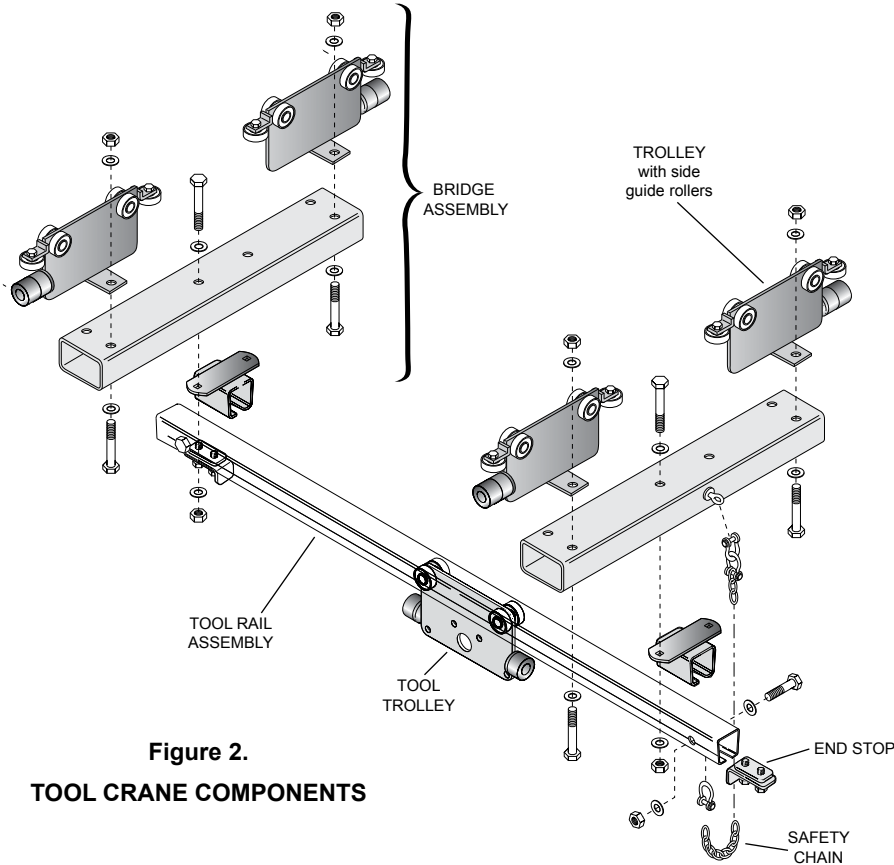

Figure 2.
2. Slide bridge assembly trolleys into support rails. Install stops omitted in step 1. (Figure 2)
3. Slide tool rail through hanger brackets on under side of bridge assemblies. Install safety chains. (Figure 2)